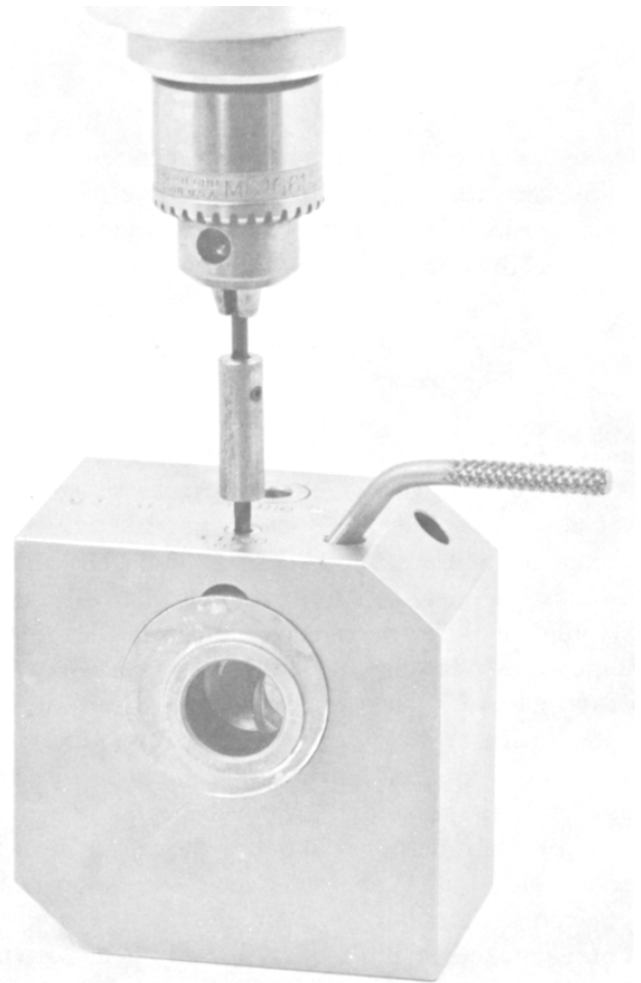

Figure 25. Drilling Adapter Assembly
- b. Drilling adapter assembly starter jack shaft PIN 634461 (See Figure 25)